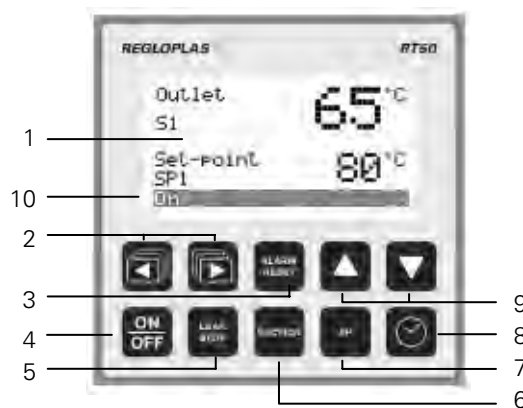

Fig. 1: Operating elements and displays
3. Control and indicating elements (Fig. 1)